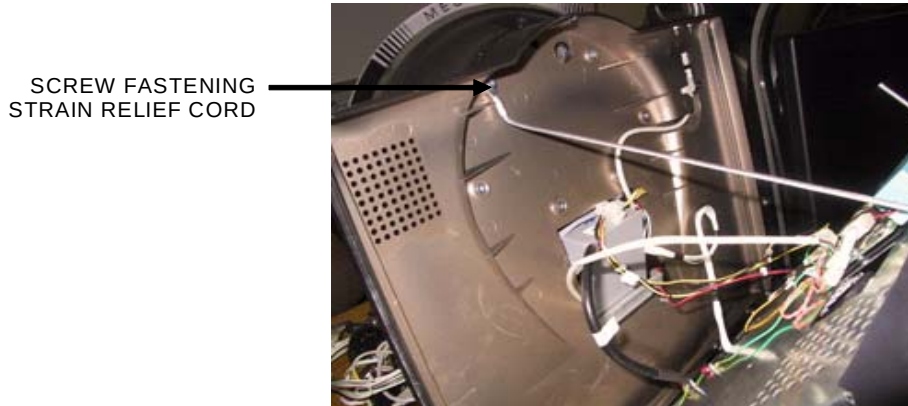

FIGURE 8 - HALFWAY-OPEN MONITOR ASSEMBLY
10. Remove the screw fastening the strain relief cord. See Figure 8. Open the assembly all the way and rest it on a support.